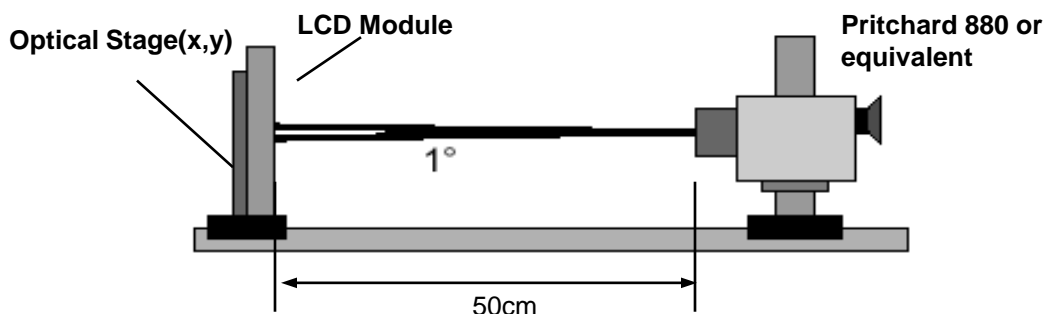

FIG. 1 Optical Characteristic Measurement Equipment and Method
Optical characteristics are determined after the unit has been 'ON' and stable in a dark environment at $25 \pm 2^\circ\text{C}$. The values are specified at distance 50cm from the LCD surface at a viewing angle of Φ and θ equal to 0° . FIG. 1 shows additional information concerning the measurement equipment and method.
- ※. Surface luminance is determined after the unit has been 'ON' and 1Hour after lighting the backlight in a dark environment at $25 \pm 2^\circ\text{C}$. Surface luminance is the luminance value at center 1-point across the LCD surface 50cm from the surface with all pixels displaying white. For more information see the FIG. 1.